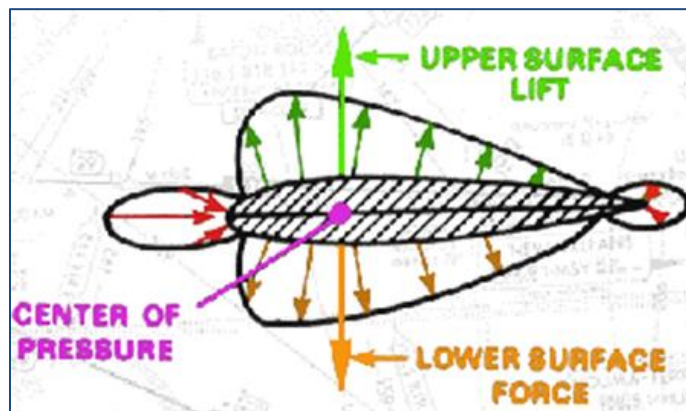

Fig. 5: Symmetrical airfoil pressure distribution
Measure the pressure distribution over a NACA 63(2)-215 symmetrical airfoil having span of 600 mm, chord length of 150 mm, Reynolds number of 3×10^5 (laminar) and determine coefficient of pressure, lift, and drag coefficient at different angle of attack. Also plot α vs C_L , α vs C_D , and x/c vs C_p , (Fig. 5).
3. Determine C_l , C_d , and C_p for the NACA Symmetrical airfoil (Fig. 5).